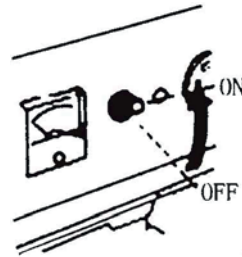

Fig. 59
10.2.2 Check if the AC breaker is at ON position. (Figure 59)